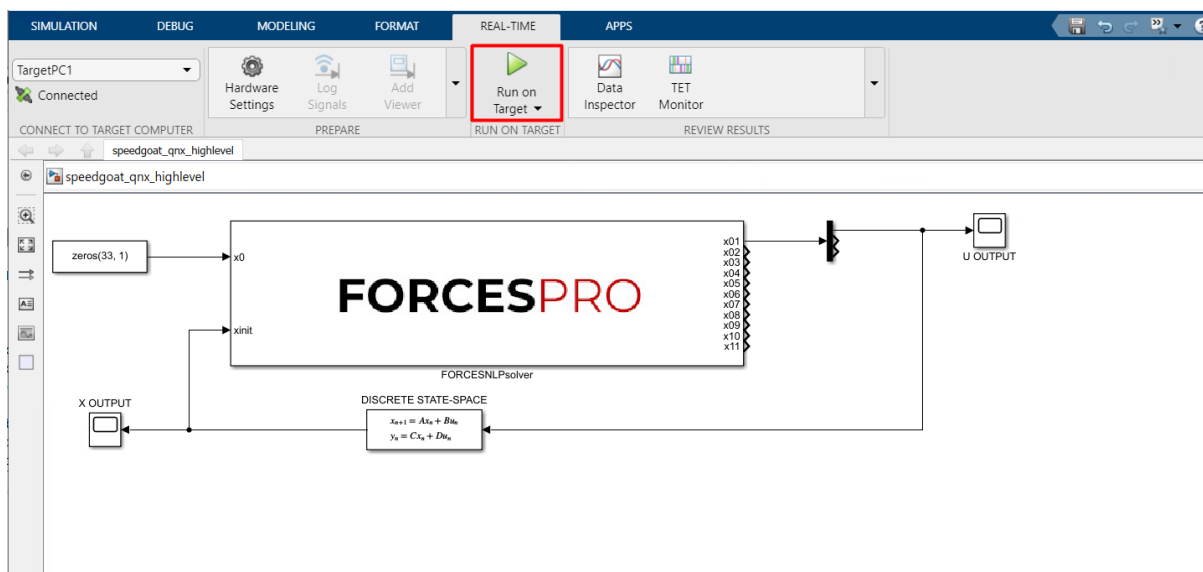

Figure 13.101: Compile the code of the Simulink model.
15. (Figure 13.101) Compile the code of the Simulink model. This will also automatically load the model to the connected Speedgoat platform.